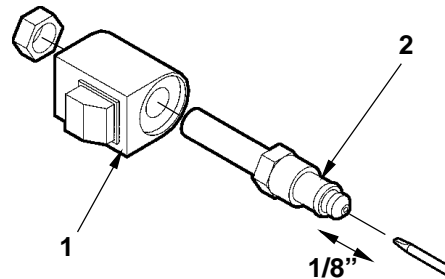

FIG. 44-2
2. Check the Valve Stem by removing the Coil Assembly (**Item 1, FIG. 44-2**). With platform on ground, unscrew the Valve Stem, (**Item 2, FIG. 44-2**) from the Pump. Push on the plunger that is located inside the Valve Stem by inserting a small screwdriver blade in the end. If the Plunger does not move freely (approximately 1/8") replace the Valve Stem. **When re-installing valve stem, torque hex nut to 30 in-lbs.**